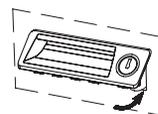

Fig. 1
3. Fit the upper part of the handle into the housing (Fig. 1).